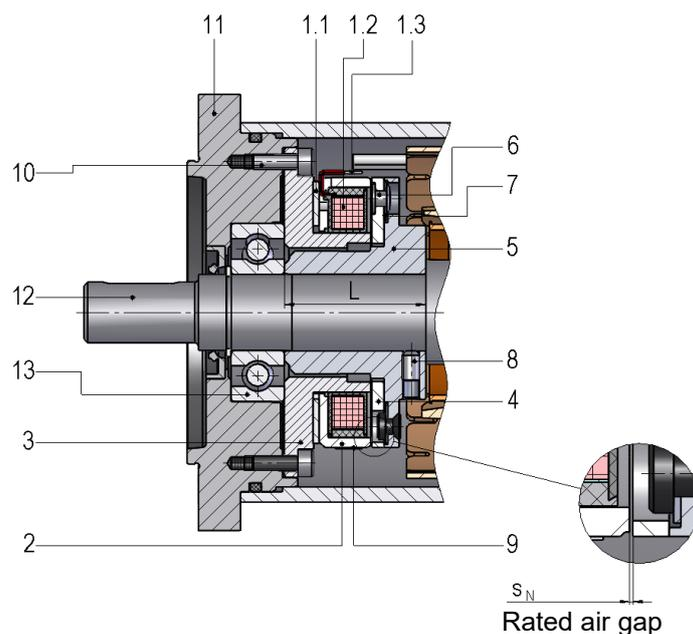

Fig. 14/1: Permanent-magnet single-face brake 86 621..H00 with armature 400
- i** The distance L (see Fig. 14/1) between the outer ring of the ball bearing (13) (limit stop for inner ring (3) of brake) and the stop shoulder of the machine shaft (e.g. motor shaft) (12) (limit stop for flange hub (5)) must be dimensioned in such a way that the required rated air gap s_N (see Table 37/1 – Technical specifications) is automatically adjusted when the brake is mounted to the machine (e.g. motor).
List of reference numerals in Fig. 14/1: